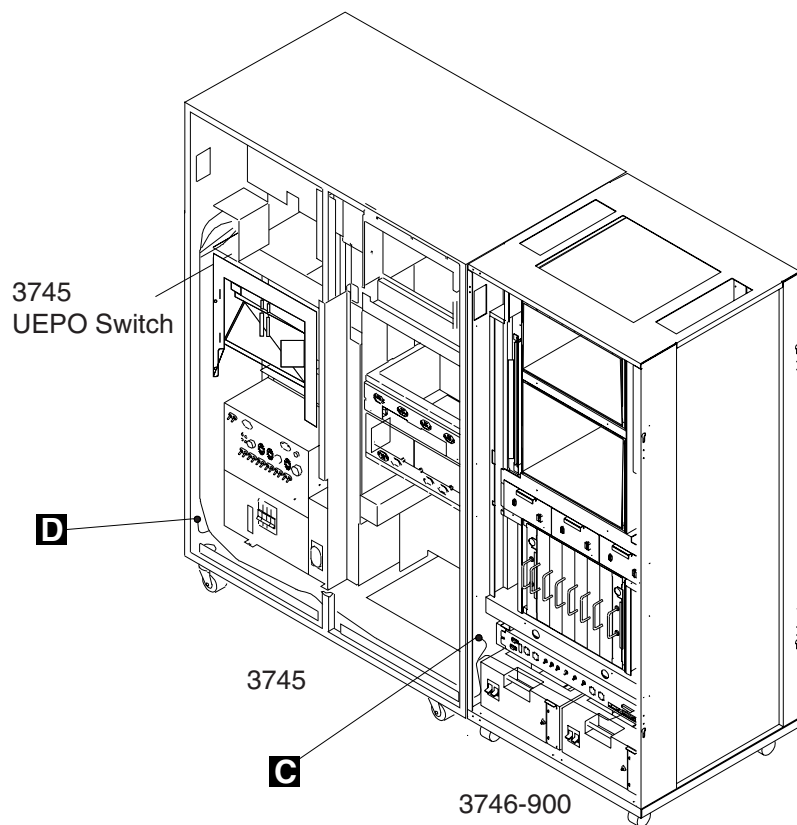

Figure 0-1. 3746-900 UEPO Cable Routing
- The 3746-900 is grounded to the 3745 via the UEPO cable (see Figure 0-1 on page xxii).